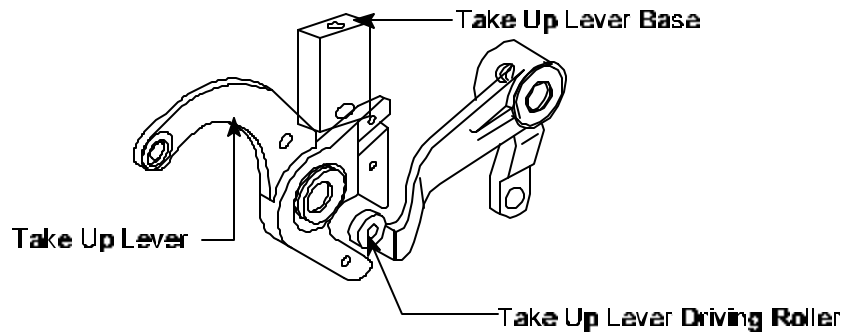

Figure 6
12. **Replace and Align** Take-Up Lever to Take-Up Driving Roller. See *Figure 6*.